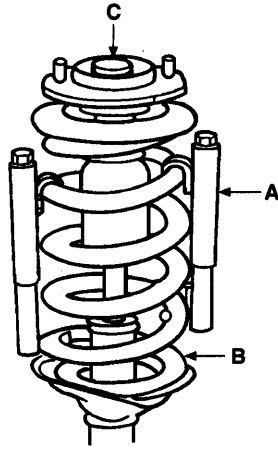

FIG. 6
23. (FIG. 6 and 7) Remove the brake line bracket (Q) and Stabilizer Bar Link (U) from the strut assembly. Remove the height sensor from the ball stud pin on the lower control arms. Save all for reuse.
38. (FIG. 6) Install brake hose bracket (Q) to strut assembly (I). Torque bolt (S) to 7-11 ft-lbs (9.5-15 N•m).